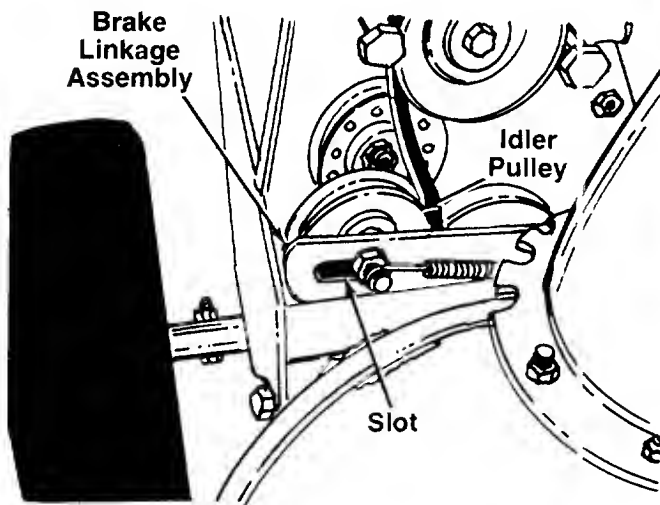

FIGURE 27.
2. Locate the brake linkage assembly (bracket with slot). See figure 27.